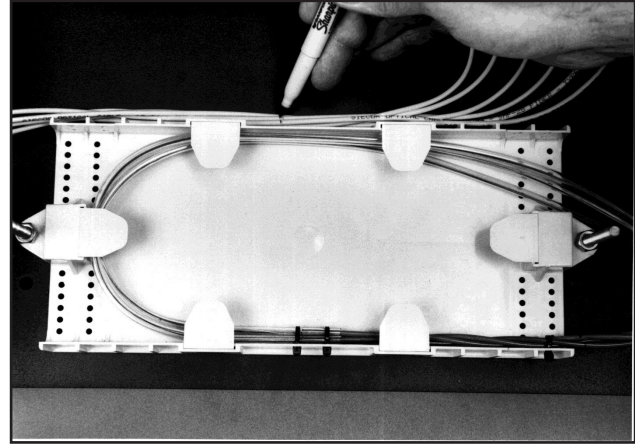

FIGURE 6 - MARK THE PIGTAILS
7.05 Mark jacket of each of the pigtails at a point 2" beyond the bending radius. (Figure 6)